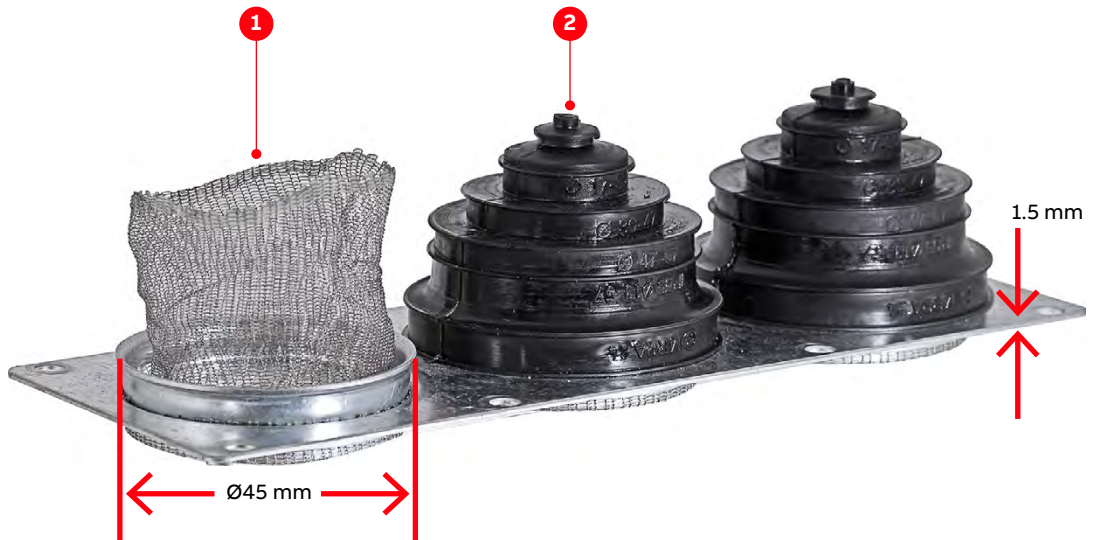

Figure 7-1: EMC plate example
- **Included in delivery:** galvanized plate with net-like EMC sleeves (1 in Fig. 7-1) and sealing grommets (2)